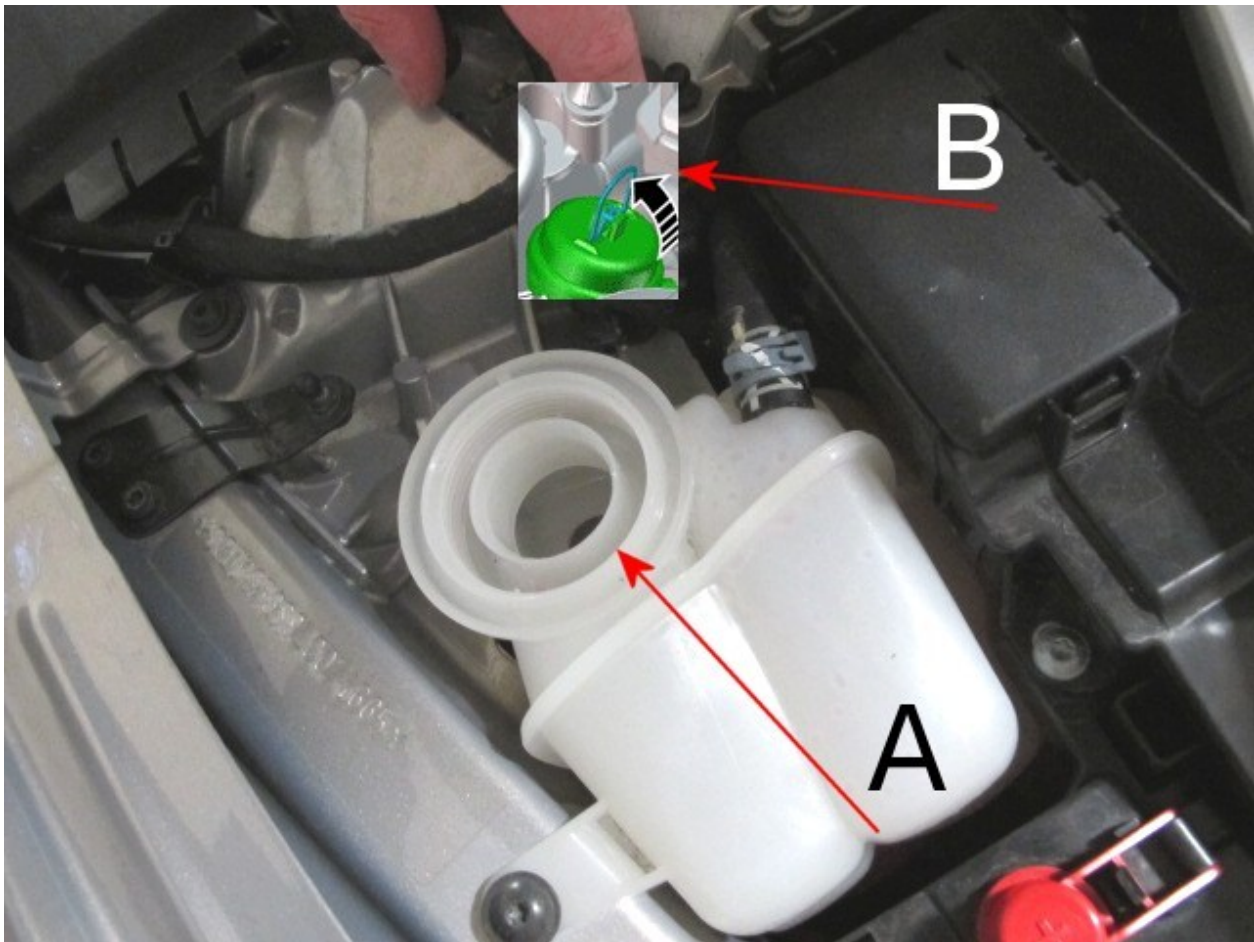

Figure 7
4) Referring to Figure 7 - Remove the coolant reservoir cap (Point A)